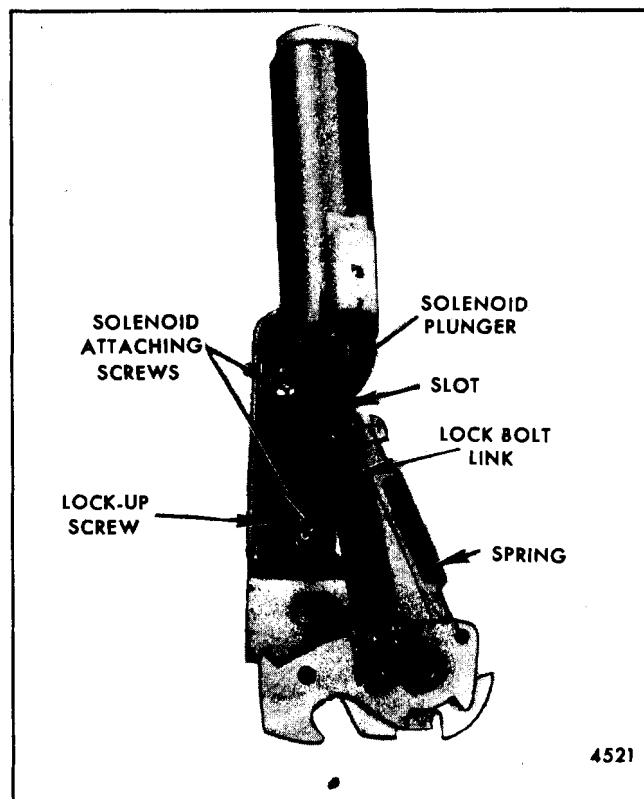

Fig. 14-31-Front Seat Back Electric Lock Solenoid and Support Assembly - "A, B and C" Two-Door Styles with Standard Full Width or 60/40 Seats
2. Remove small position lock screw and two solenoid support-to- lock attaching screws; then, disengage solenoid plunger bar from lock link (Fig. 14-31) and remove assembly from lock.
3. To install solenoid and support assembly, engage solenoid plunger bar to lock link; then, install loosely two solenoid support-to-lock attaching screws (Fig. 14-31). With lock hook tight against stop tab (see Fig. 14-31) extend solenoid plunger bar all the way out of solenoid; then, adjust solenoid support until the lock link rivet just contacts bottom of slot in solenoid plunger bar (see Fig. 14-31) and tighten securely solenoid support attaching screws.